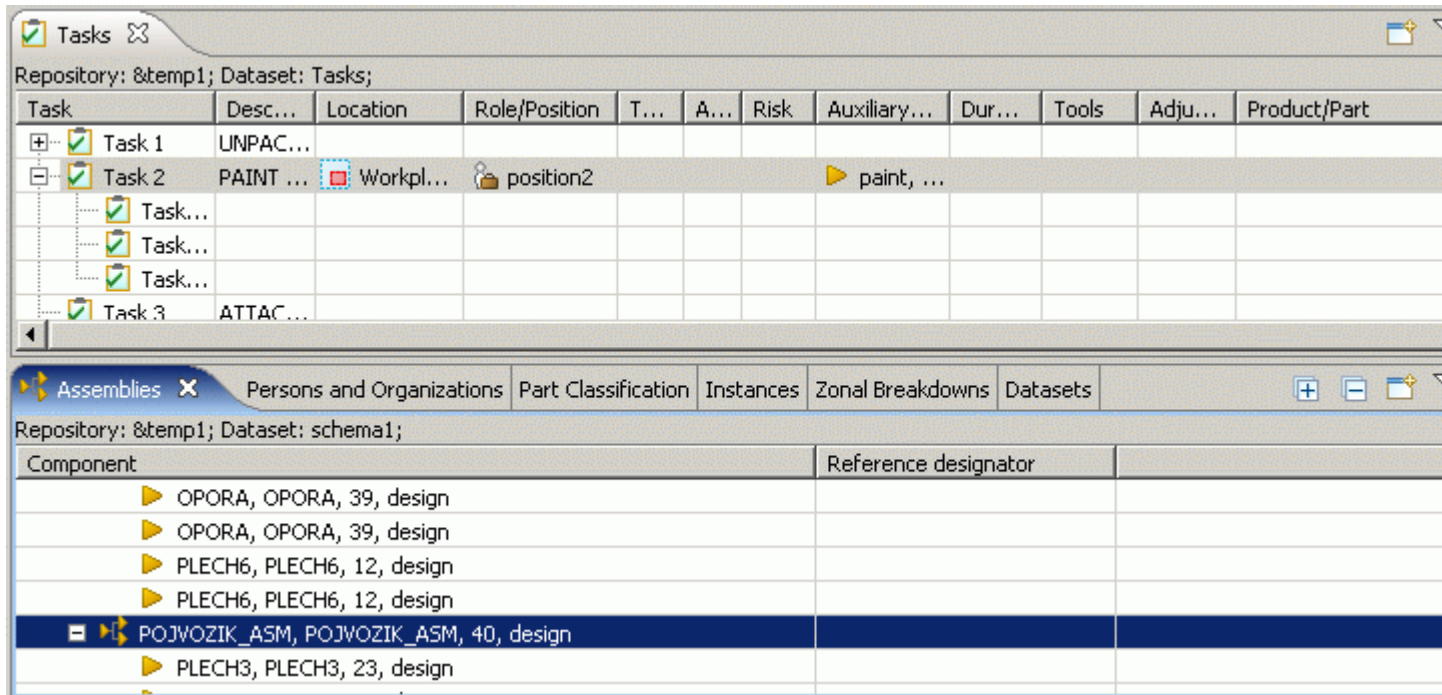

Figure 1. Tasks and Part Details window in TDE
- Ensure that  Tasks and  Part Details windows are opened (see Figure 1).